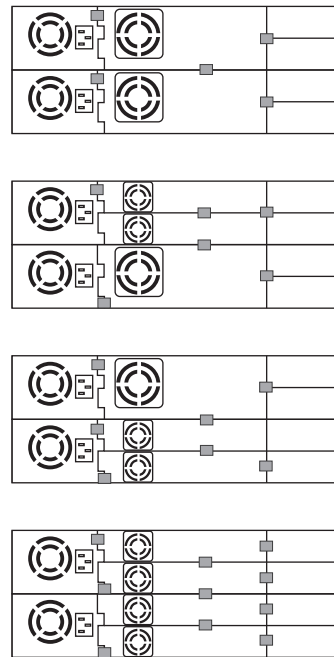

Figure 176. Drive sled taping diagrams
- h. If a drive sled without ESD springs is installed (see Figure 175), apply conductive tape as shown in Figure 176 on page 238.